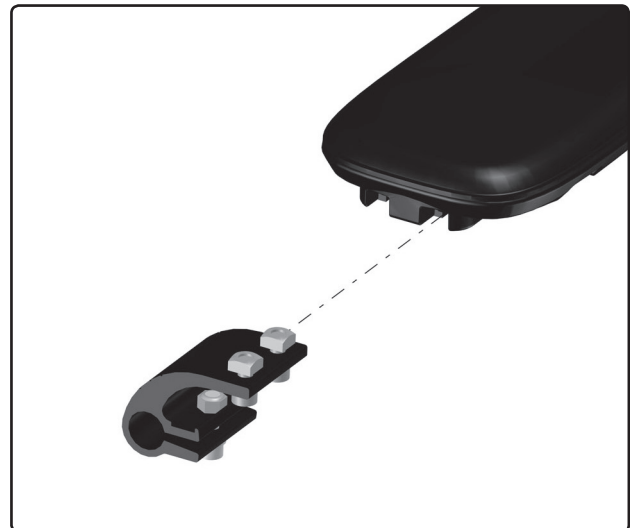

Fig. 1. Mounting the bracket.
1. Mount the panel holder on the arm rest by sliding the groove nuts into the required groove on the underside of the arm rest. (*Fig. 1*).